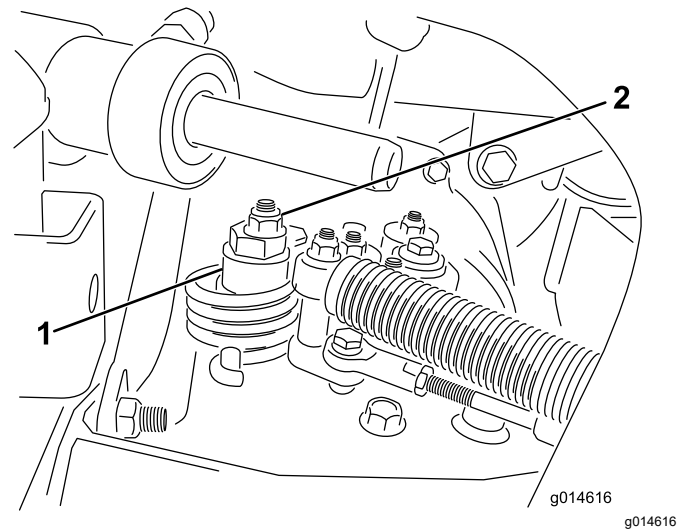

Figure 35
- A. Loosen the nut securing the eccentric to the top of the hydrostat (Figure 35).
- C. Rotate the eccentric until creep does not occur in either direction. When the wheel stops rotating, tighten the nut locking the eccentric and the adjustment (Figure 35). Verify the adjustment with the throttle in the SLOW and FAST position.